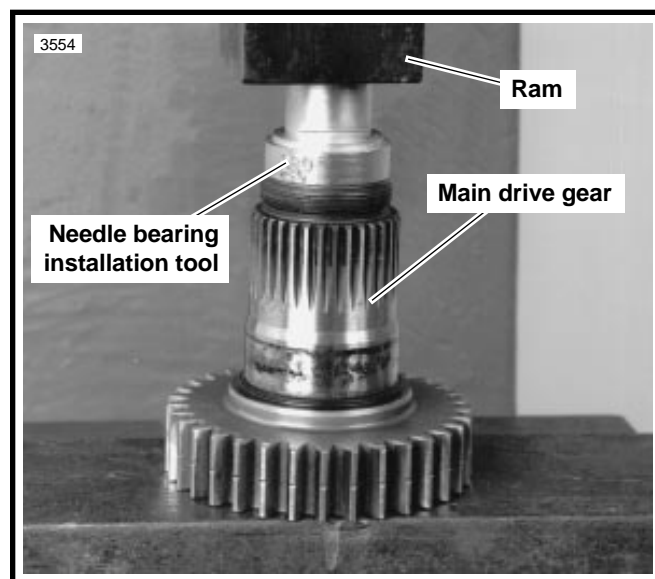

Figure 6-38. Needle Bearing Installation Tool
1. Use INNER/OUTER MAIN DRIVE GEAR NEEDLE BEARING INSTALLATION TOOL \(Part No. HD-37842A\). See Figure 6-38. The tool is stamped 0.080 in. (2.032 mm) for the end of the tool to be used for driving the bearing into the inner end and 0.315 in. (8.001 mm) for the outer end bearing.